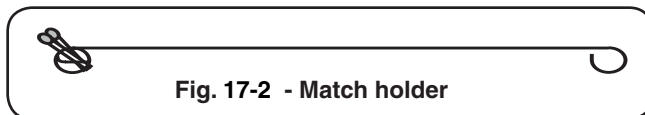
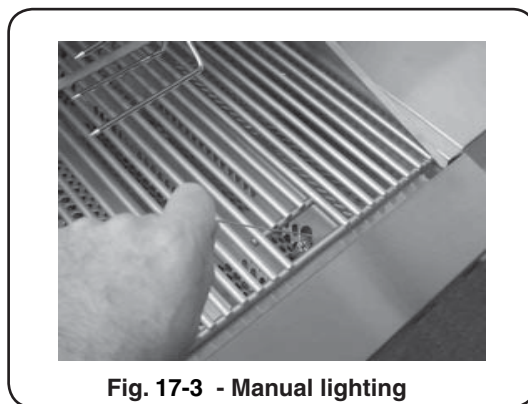

Fig. 17-2 - Match holder
Fig. 17-3 - Manual lighting
2. Insert either a burning long-barrel butane lighter, a burning long-stem match, or a burning match held by a wire extension holder (Fig. 17-2) through the cooking grids to the burner (Fig. 17-3). For backburners, hold the flame against the perforated material of the backburner. For sideburners, hold the flame against the burner.
REMEMBER: FOR SAFE MANUAL LIGHTING, PLACE A BURNING MATCH OR BUTANE LIGHTER BESIDE THE BURNER - **THEN TURN ON THE GAS** (see Fig. 17-3).